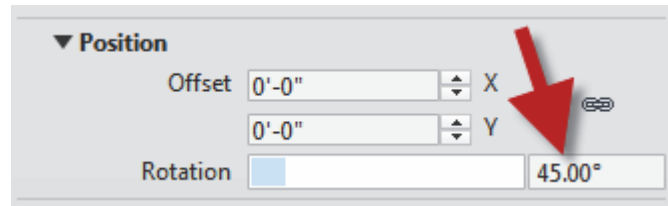

FIGURE 4-4.13 Rotate texture 45 degrees
46. Adjust the rotation of *Ceramic* and *Relief Pattern* to **45** degrees (Figure 4-4.13).